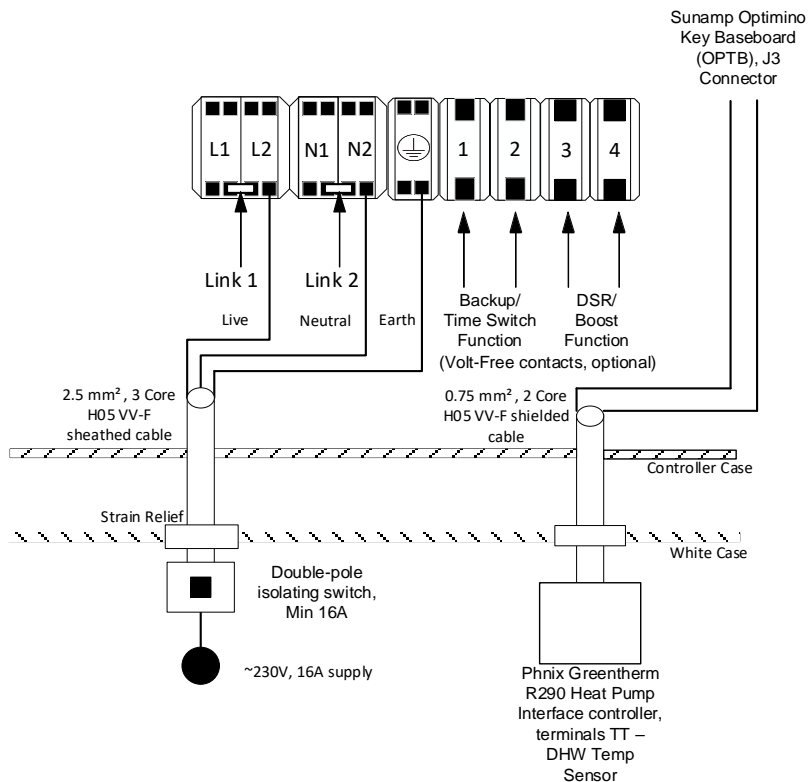

Figure PX.1 - Thermino xPlus with PX01 Optimino key
- Thermino xPlus with the “PX01” & “PX02” Optimino keys (D0084 – Section 6.4.2 for wiring instructions & Figures PX.1 & PX.2 below)
J3 on the Optimino Board, please see Figures PX.1 & PX.2 below for reference.